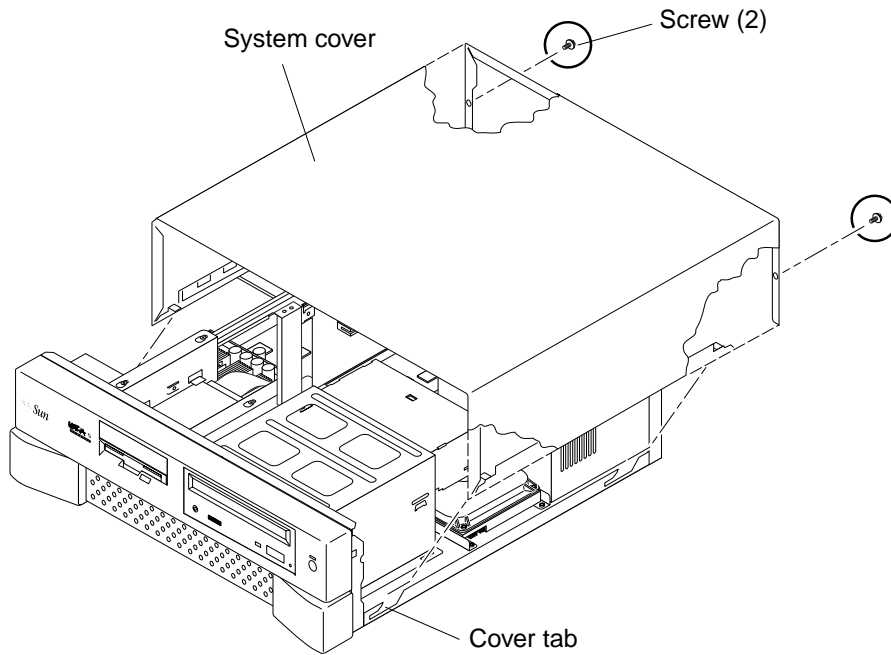

FIGURE 10-1 Replacing the System Cover
2. Replace the Ultra 5 system cover as follows (FIGURE 10-1):